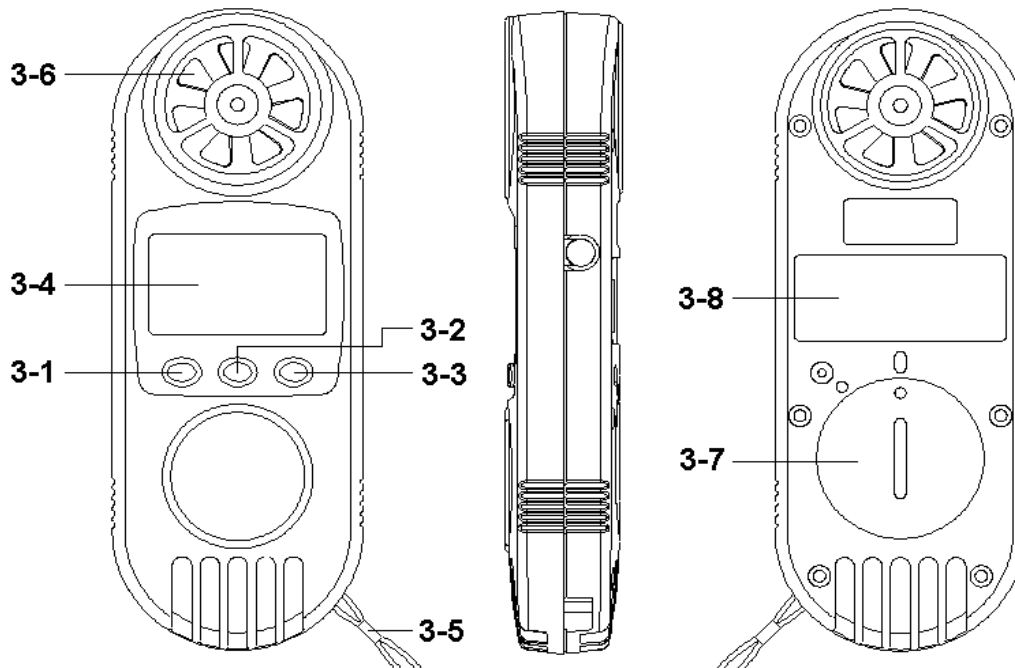

Fig. 1
- 2) Open the " Battery Compartment / Cover " (3-7, Fig. 1) and remove the battery.